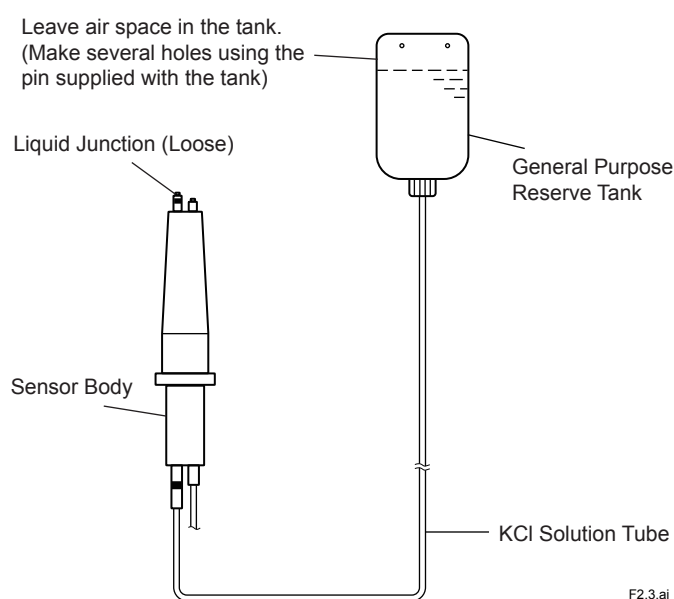

Figure 2.3 Supplying KCl Solution to Sensor Body
- (1) Connect the sensor cable to the associated instrument correctly by referring to Section 2.3 provided later.
- (2) Mount the liquid junction in the sensor body. Peel off the seal attached to the liquid junction mounting hole in the sensor body. Screw the liquid junction gently two or three turns into the hole.
- (3) If specified, a reserve tank containing 250 mL KCl solution and mounting hardware to hold this tank are supplied with the OR8EFG ORP Sensor. Attach the holding hardware to the pipe (2-inch). Connect the reserve tank to the KCl solution supply tube of the sensor. Remove the cap from the tank and screw the tube connector securely into the tank.
- (4) Supply KCl solution to the sensor (see Figure 2.3). First, mount the reserve tank on the mounting hardware with the tube connection part directed downwards. Then, using the pin supplied with the tank, make several holes in its top (see Figure 2.3). Stand the sensor upside down at a lower position than the reserve tank as shown in Figure 2.3 so that KCl solution flows from the tank into the sensor. When the KCl solution fills the sensor and overflows from the liquid junction mounting hole, securely screw the liquid junction into the mounting hole.
- (3) Connect the sensor cable to the associated instrument correctly by referring to Section 2.3.
- (4) Mount the liquid junction in the sensor body. Peel off the seal attached to the liquid junction mounting hole on the sensor body. Screw the liquid junction gently two or three turns into the hole.
- (5) If specified, a reserve tank containing 250 mL KCl solution and mounting hardware to hold this tank are supplied with the OR8EFG ORP Sensor. Attach the mounting hardware to the pipe (2-inch). Connect the reserve tank to the KCl solution supply tube of the sensor. Remove the cap from the tank and screw the tube connector securely into the tank.
- (6) Supply KCl solution to the sensor. First, mount the reserve tank on the mounting hardware with the tube connection part directed downwards. Then, using the pin supplied with the tank make several holes in its top (see Figure 2.3). Stand the sensor upside down at a position lower than the reserve tank as shown in Figure 2.3 so that KCl solution flows from the tank into the sensor. When the KCl solution fills the sensor and overflows from the liquid junction mounting hole, securely screw the liquid junction into the mounting hole.
First, mount the reserve tank on the holding hardware with the tube connection part directed downwards. Then, using the pin supplied with the tank, make several holes in its top (see Figure 2.3). Stand the sensor upside down at a position lower than the reserve tank as shown in Figure 2.3 so that KCl solution flows from the tank into the sensor. When the KCl solution fills the sensor and overflows from the liquid junction mounting hole, securely screw the liquid junction into the mounting hole.